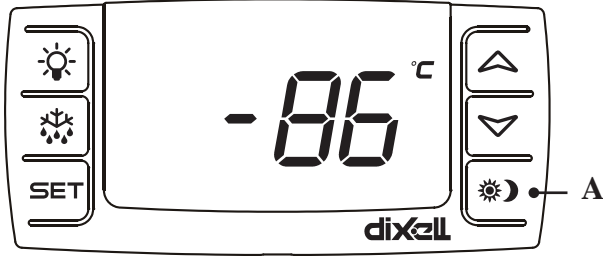

fig. 4
The appliance is equipped with electronic controls (fig. 4).
**NOTE:** The first time the power is connected, press the "A" (Fig. 4), thereby the alarm will be connected